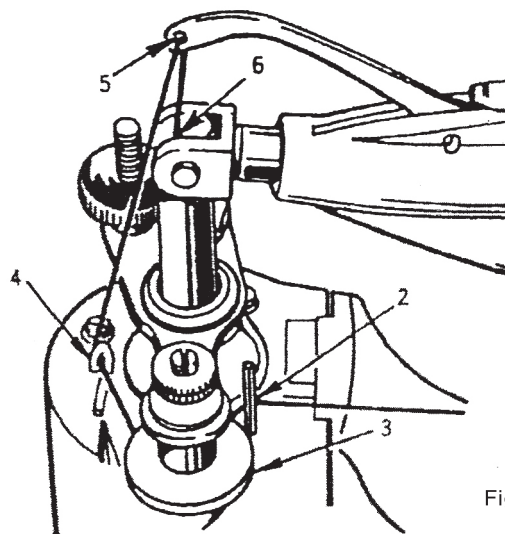

Fig.19
3. Draw the thread around back of pin 2 which is near the tension discs on top of the arm and from back to front and right to left between the tension discs 3. See Fig.19.
3. 将缝线从绕线销2后面绕过, 然后从夹线器3右侧绕到左侧, 如图19。